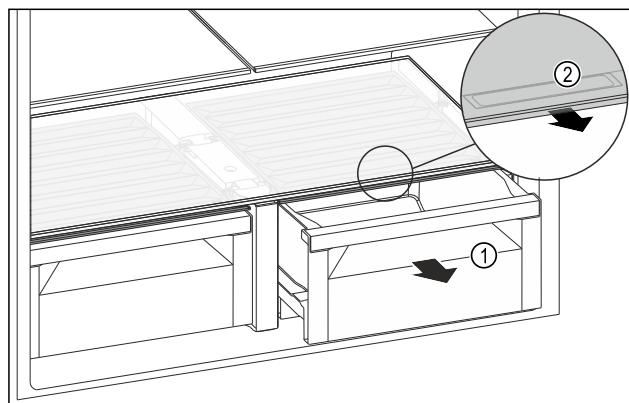

Fig. 98
- ▶ Pull out the drawer Fig. 98 (1).
- ▶ Grasp the recessed grip Fig. 98 (2) on the compartment lid and pull the compartment lid forwards at the same time.